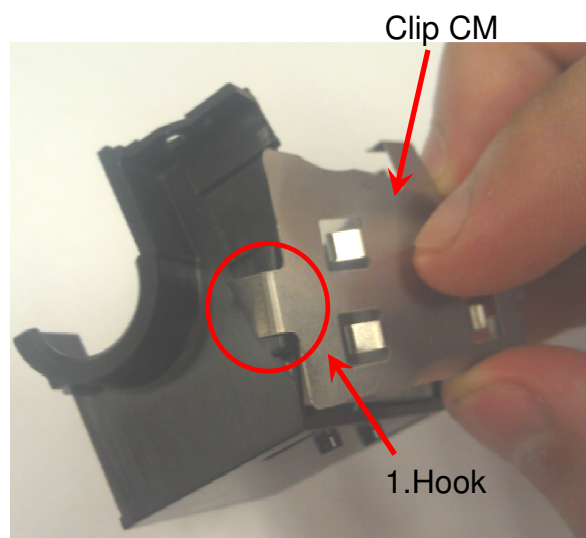

Fig. 3-13
- (2) Hook Clip CM to Sub HSG first and push it into the hole. (Fig. 3-13, 3-14).